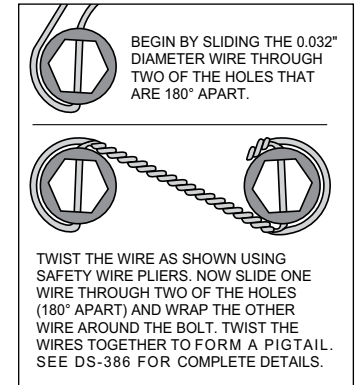

Figure 4
STEP 7 Orient the rotor (23) and the hat (24) as shown in Figure 1 and Photo 8. Attach rotor to hat using bolts (25) and washers (26). Apply red *Loctite*® 271 to the bolt threads and torque to value shown in Figure 1 using a criss-cross pattern. For an added measure of security, the bolts may be safety wired using standard 0.032 inch diameter stainless steel safety wire as shown in Figure 4. Refer to Wilwood's data sheet DS-386 (available at www.wilwood.com/Pdf/DataSheets/ds386.pdf) for complete safety wire installation instructions.